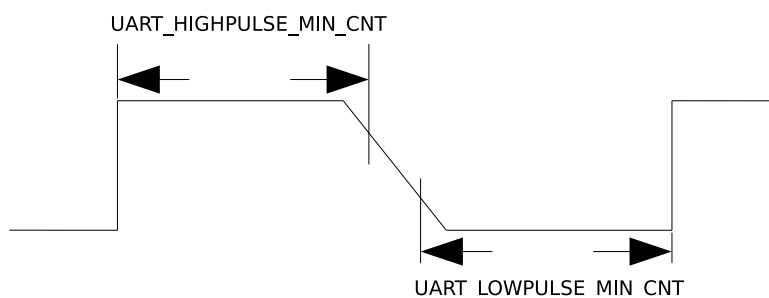

Figure 26.4-3. The Timing Diagram of Weak UART Signals Along Falling Edges
2. If UART signals are weak along falling edges as shown in Figure 26.4-3, which leads to an inaccurate average of `UART_LOWPULSE_MIN_CNT` and `UART_HIGHPULSE_MIN_CNT`, use